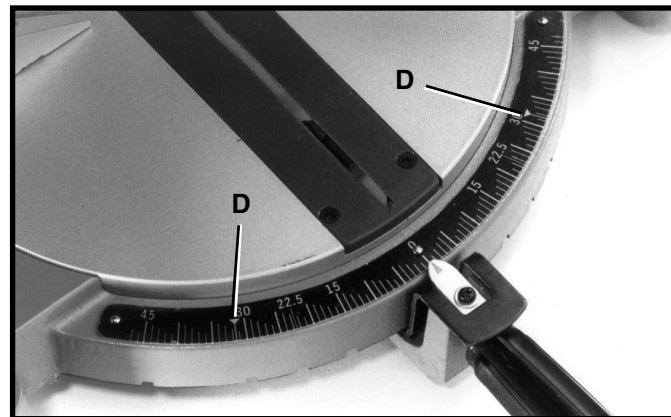

Fig. 15
In addition, two triangle indicators (D) Fig. 15, are provided on the scale at the 31-5/8 degree right and left miter angle for cutting crown moulding. Refer to the **CUTTING CROWN MOULDING** section of this manual.